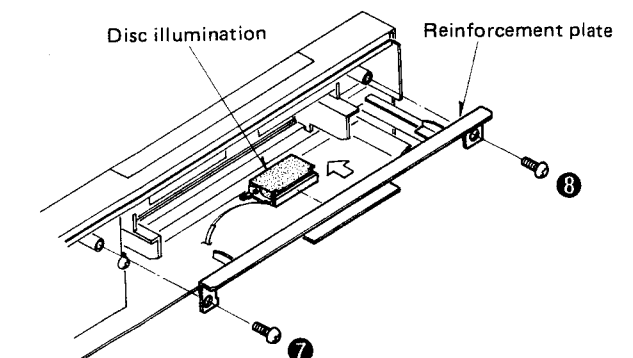

Fig. 3
2. Remove the 2 setscrews [Fig. 3 : ⑦, ⑧] of the reinforcement plate.
3. Remove the disc illumination in the direction of the arrow as in Fig. 3.